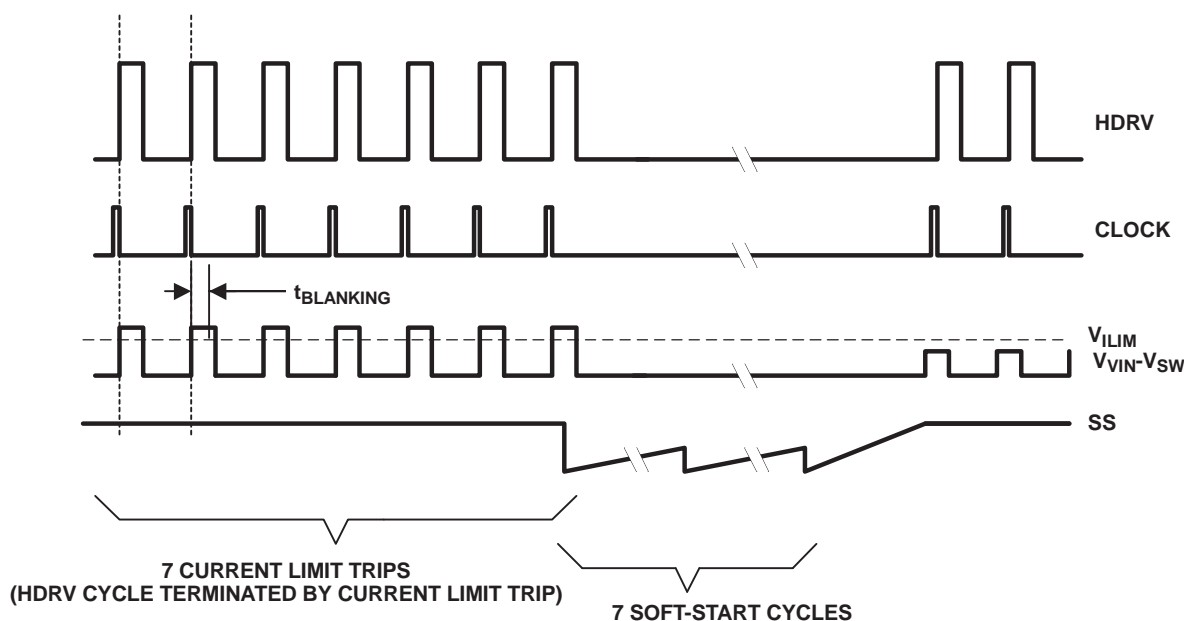

Figure 8. Typical Current Limit Protection Waveforms
The second tier consists of a fault counter. The fault counter is incremented on an overcurrent pulse and decremented on a clock cycle without an overcurrent pulse. When the counter reaches seven (7) a restart is issued and seven soft-start cycles are initiated. Both the upper and lower MOSFETs are turned off during this period. The counter is decremented on each soft-start cycle. When the counter is decremented to zero, the PWM is re-enabled. If the fault has been removed the output starts up normally. If the counter is still present the counter counts seven overcurrent pulses and re-enters the second-tier fault mode. See Figure 8 for typical overcurrent protection waveforms.